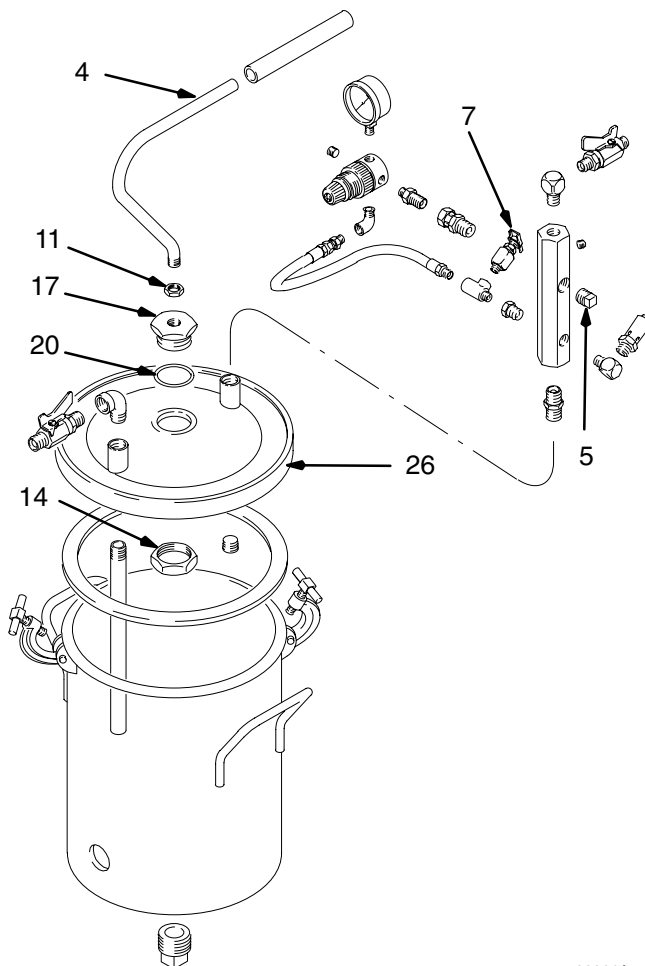

Fig. 3
2. Open the drain cock fitting (7) by turning it counterclockwise. Refer to Fig. 3.
4. Leave the drain cock fitting (7) open until you have reinstalled the cover or fill port.
To add a second air regulator to control air to a spray gun, see **Accessories** on page 18 for Gun Air Regulator Kit. The second air regulator installs in place of pipe plug (5). See Fig. 3.
2. Remove the cover (26) from the tank. Remove the hex jam nut (14) from bottom of the cover. Remove the o-ring (20), adapter plug (17), and handle (4). Keep the hex jam nut (14). See Fig. 3.